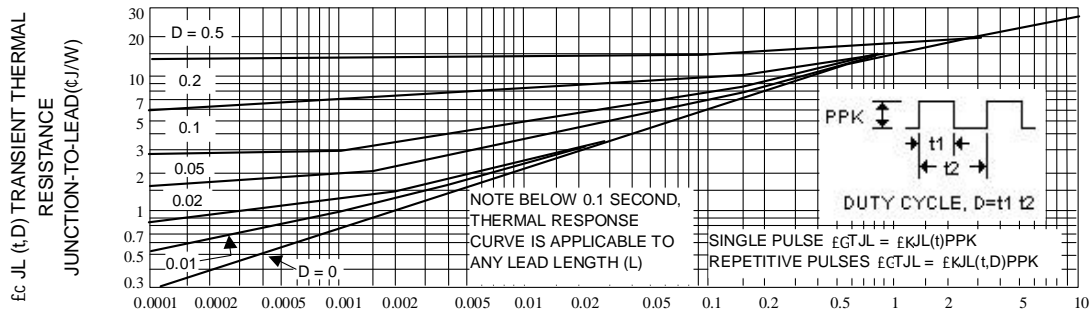
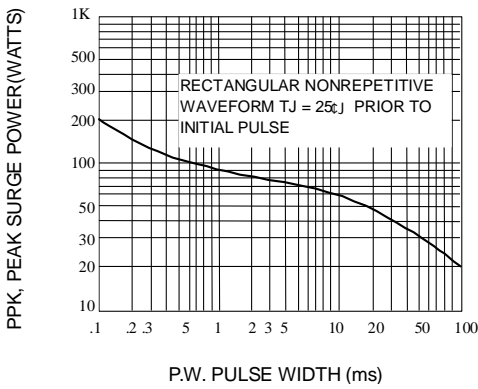
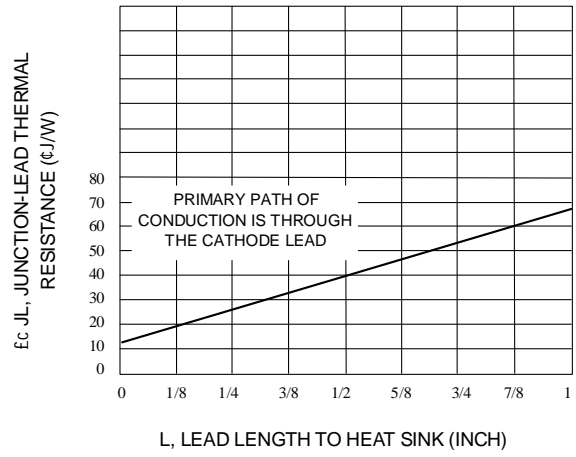

Fig. 2-TYPICAL THERMAL RESPONSE L,
Fig. 3-MAXIMUM SURGE POWER
Fig. 10-TYPICAL THERMAL RESISTANCE
4. SURGE CURRENT ( $I_R$ ) NON-REPETITIVE - The rating listed in the electrical characteristics table is maximum peak, non-repetitive, reverse surge current of 1/2 square wave or equivalent sine wave pulse of 1/120 second duration superimposed on the test current,  $I_{ZT}$ , per JEDEC standards, however, actual device capability is as described in Figure 3.
$\theta_{JT}$  is the increase in junction temperature above the lead temperature and may be found from Figure 2 for a train of power pulses or from Figure 10 for dc power.
Data of Figure 2 should not be used to compute surge capability. Surge limitations are given in Figure 3. They are lower than would be expected by considering only junction temperature, as current crowding effects cause temperatures to be extremely high in small spots resulting in device degradation should the limits of Figure 3 be exceeded.